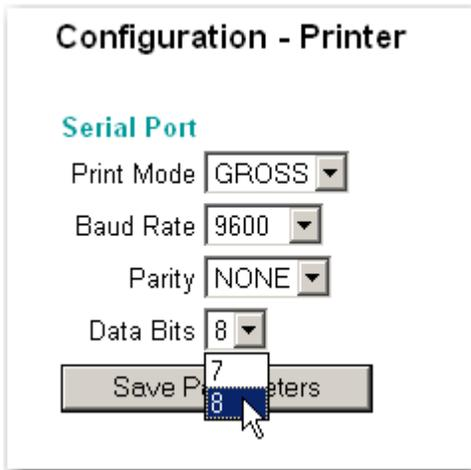

FIG. 206 PRINTER SETUP/SELECTING DATA BITS
Step 7. Click on the Data Bits pull down list. (See Fig. 206)